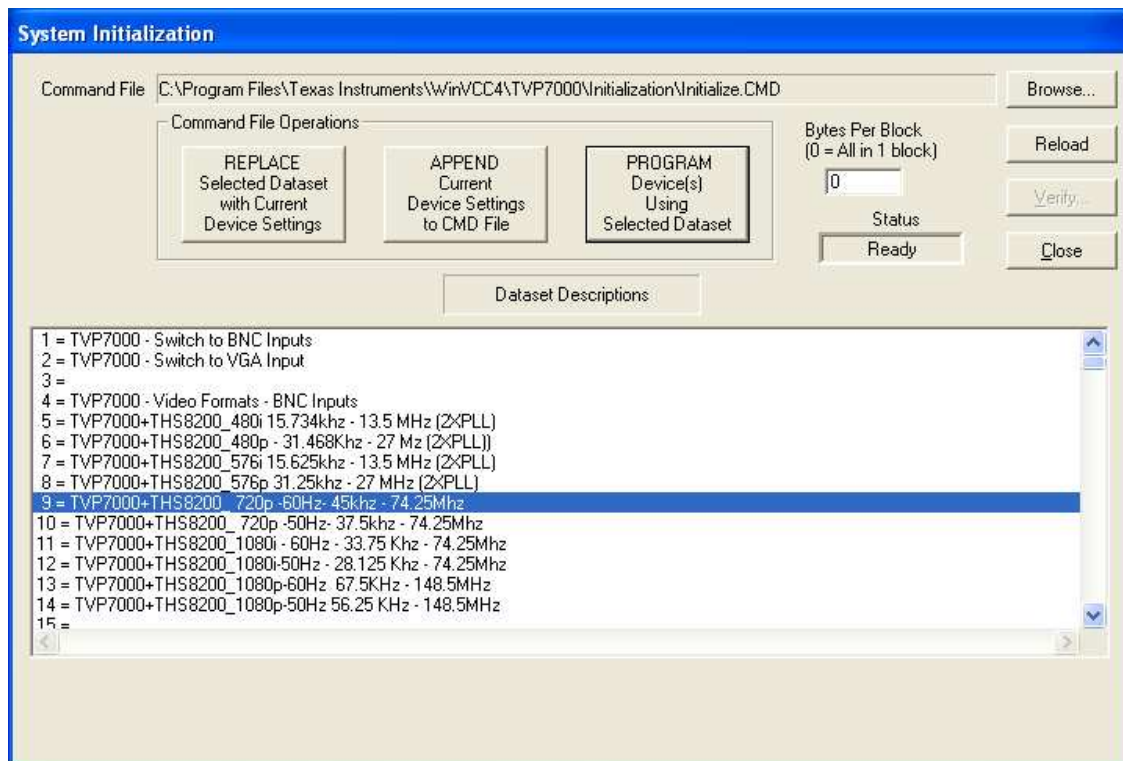

Figure 3. WinVCC4-System Initialization
6. Depending on whether your input cables to the TVP7000 EVM are connected for YPbPr video, or PC graphics, highlight the TVP7000 + 8200 dataset that corresponds to the input format you want to support. Click the Program Devices button to initialize the TVP7000EVM. See Figure 3.